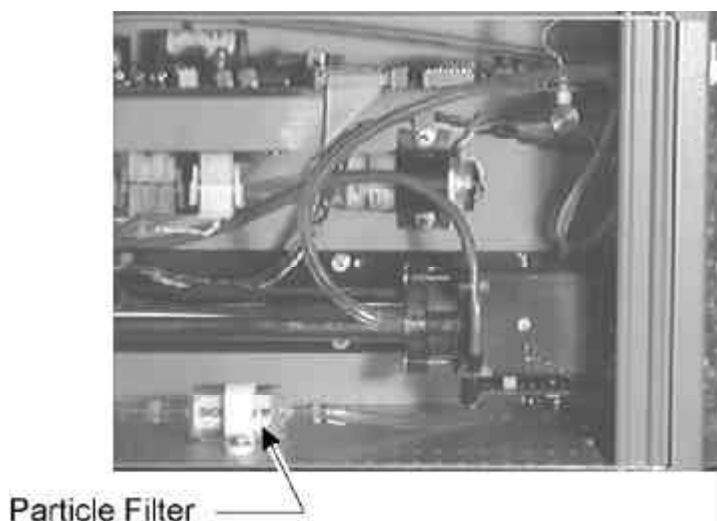

Figure 6-1: Particle Filter Location
- Locate the particle filter (see Figure 6-1).